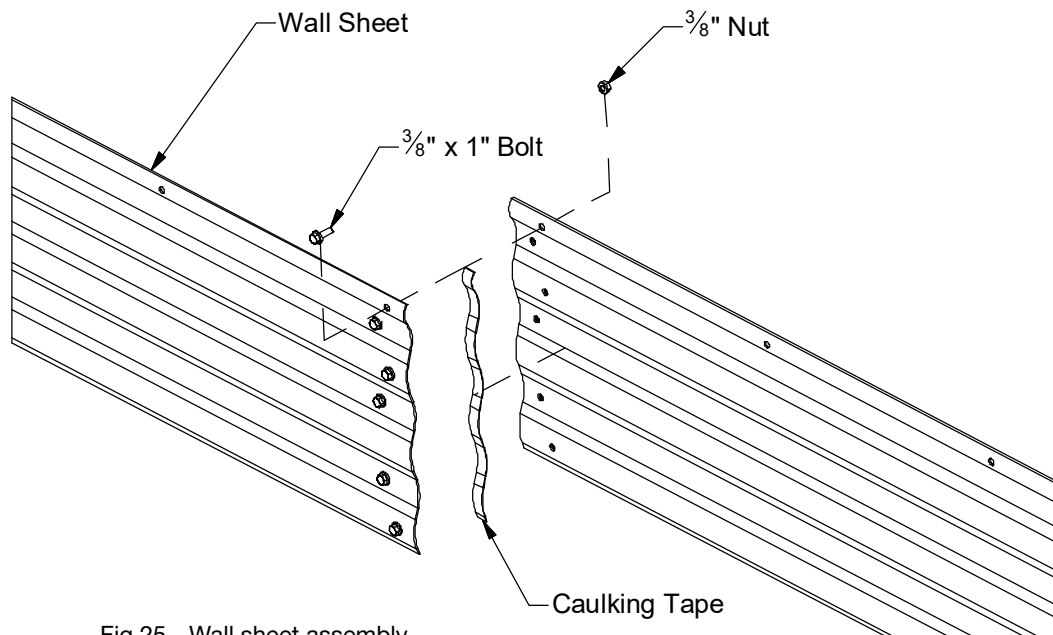

Fig 25 - Wall sheet assembly
- If the system uses a bottom mount liner, apply caulking tape to the outer vertical edge of the wall sheet towards the inside of the system before bolting together. See Figure 25.